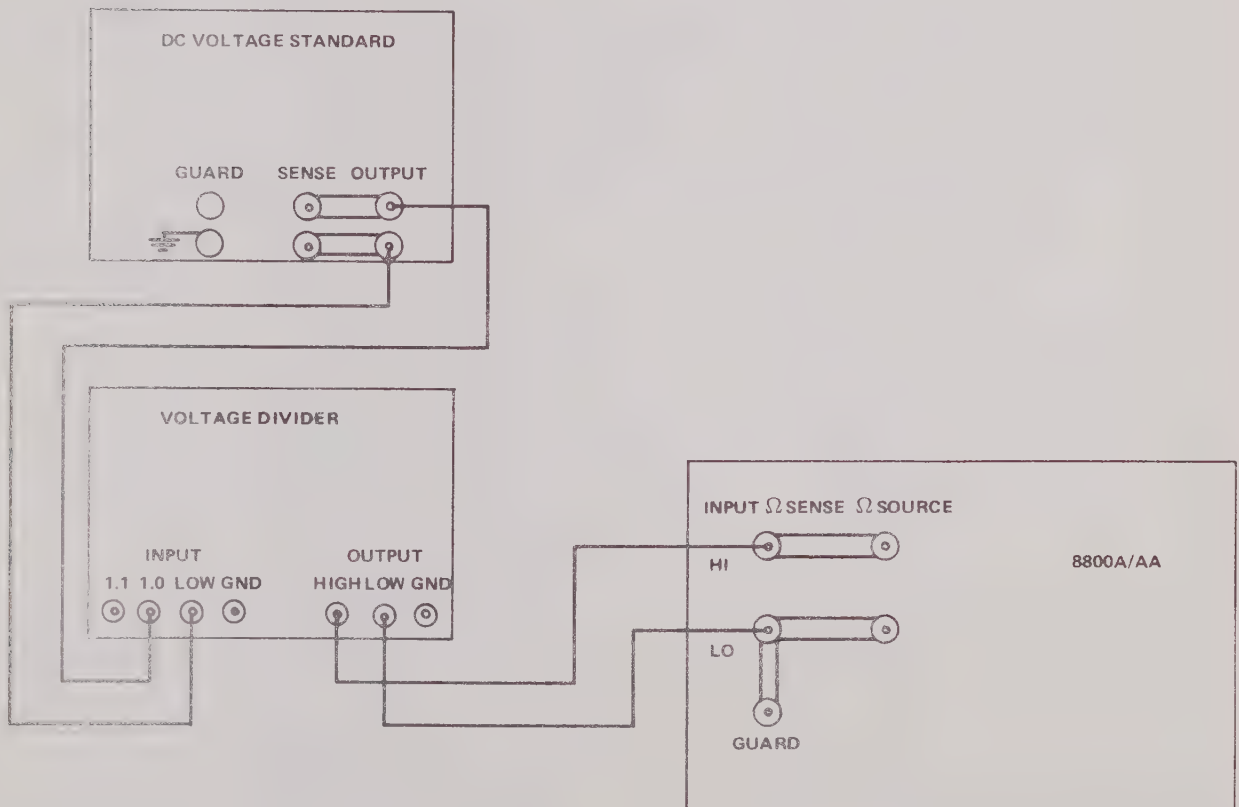

Figure 2. DC VOLTAGE ADJUSTMENT EQUIPMENT CONFIGURATION
- m. Connect the calibration equipment as shown in Figure 2. Set the dc voltage standard for +10.00000V output. Adjust the voltage divider control as needed to obtain the correct output.